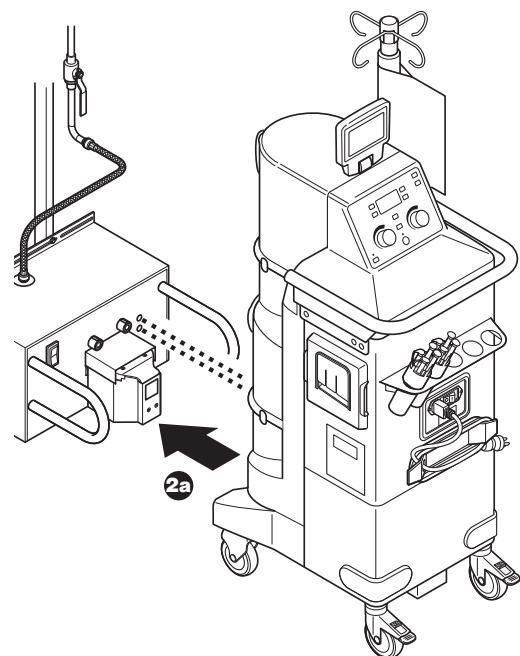

Figure 41 To Perform a Wash Cycle
- a. Push the rover toward the docker and between the guides until the rover and docker attach automatically (Figure 41). DO NOT lock the casters.